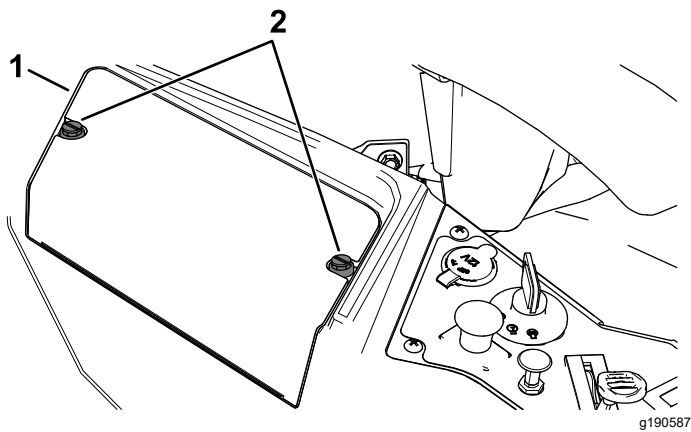

Figure 46
3. Loosen the 2 fasteners on the battery cover counterclockwise 1/4 turn, and remove the battery cover (Figure 46).
- 6. Install the battery cover by pushing down and tightening the 2 fasteners clockwise (Figure 46).